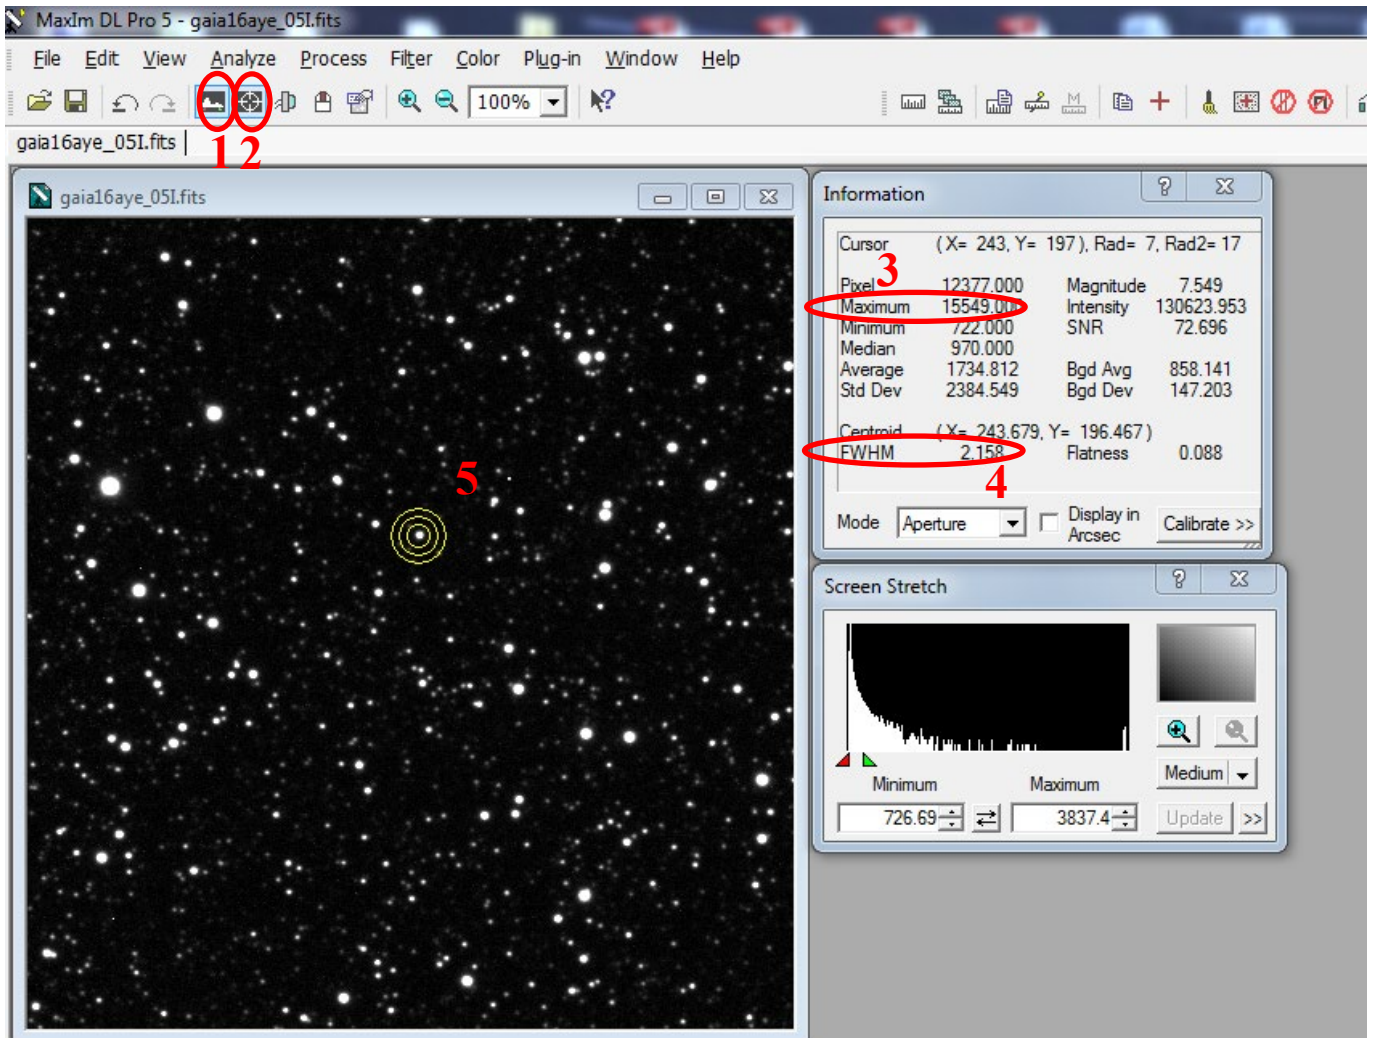

Fig. 5.8. Checking the ADUs and the FWHM of a star using the MaxIm DL tools.
3. In the MaxIm DL click on the “information” and the “Screen stretch” buttons (Fig. 5.8 No 1-2). The respective windows open. The “Screen stretch” can be used to change the image contrast if necessary.
4. Acquire 2-3 images (see section 5.3.2.2 for single acquisition) and check the FWHM and the Maximum value of 3-4 non saturated stars (Fig. 5.8 No 3-4). For this put the cursor (three circles) on the stars (Fig. 5.8. No 5) and double click it for locking one.